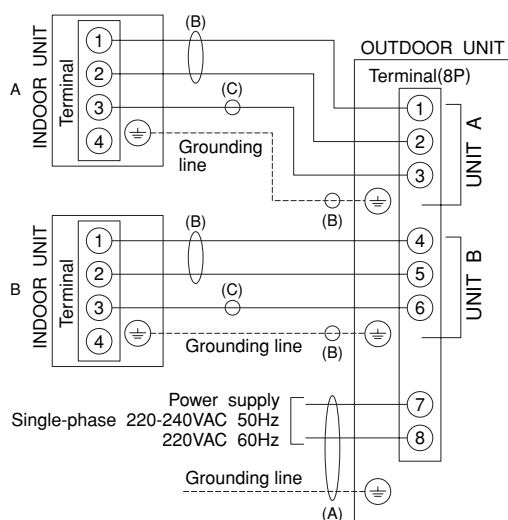

Fig. 25
Refer to the wiring system diagram (Fig. 25) for the meaning of (A), (B), and (C) in Table 6.